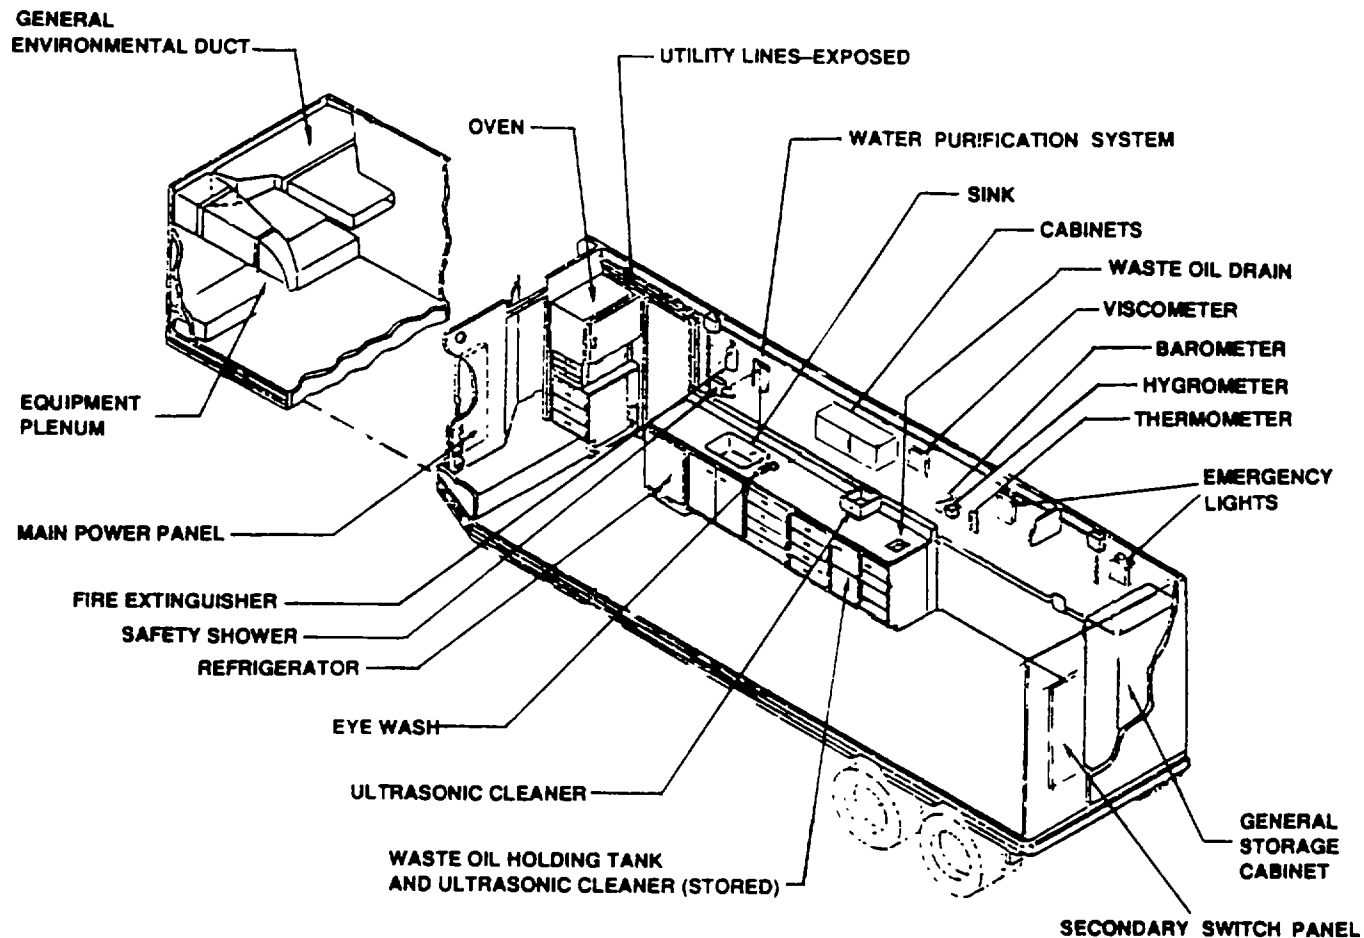

Figure 1-5. Curbside Interior
d. *Curbside Interior (Figure 1-5).*